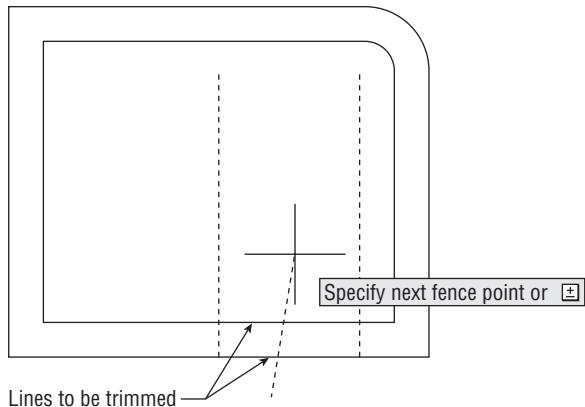

FIGURE 2.34 Lines selected to be trimmed
4. Your command line now reads **Specify first fence point:**. Using the Fence method, you will draw an imaginary line through the objects you want to trim. Use your cursor to draw a line that crosses the two horizontal lines across the opening somewhere between the cutting edge lines (see Figure 2.34).